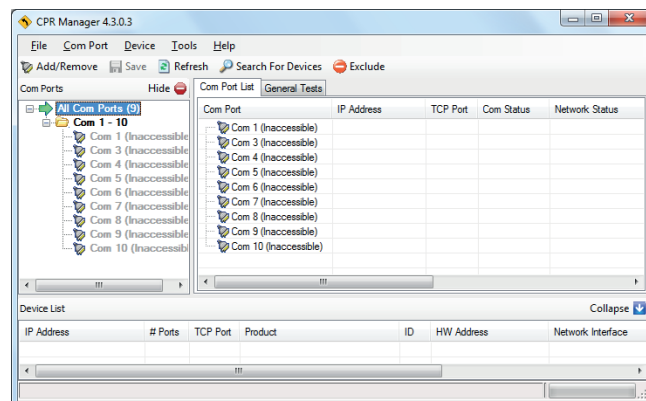

Fig. 80
2. Open the program „CPR Manager“. See Fig. 80.
3. In the "CPR Manager" program, click on the item Search For Devices. See Fig. 80.